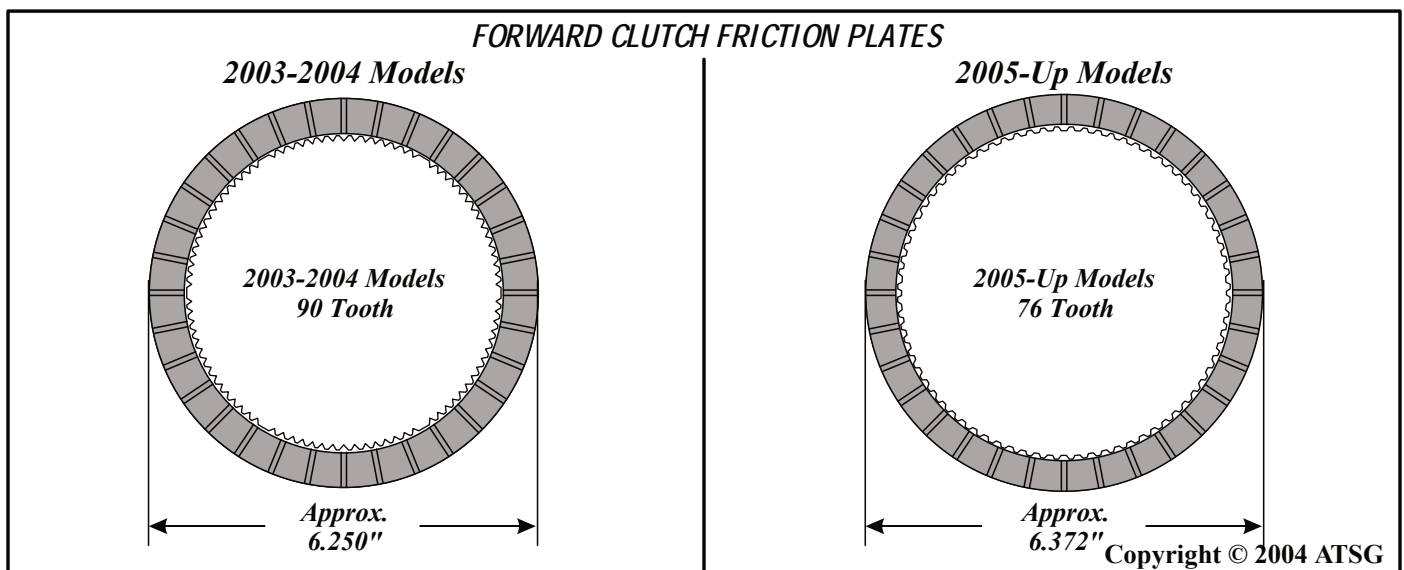

Figure 119
2. Increased inside and outside diameters of the forward clutch friction plates, as shown in Figure 119, which changes the tooth count.